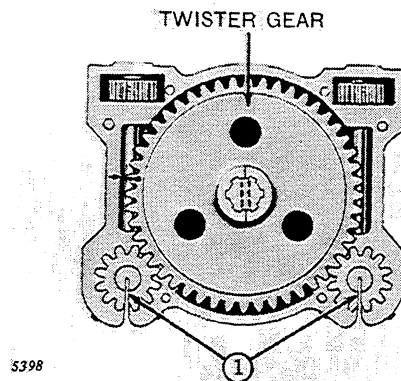
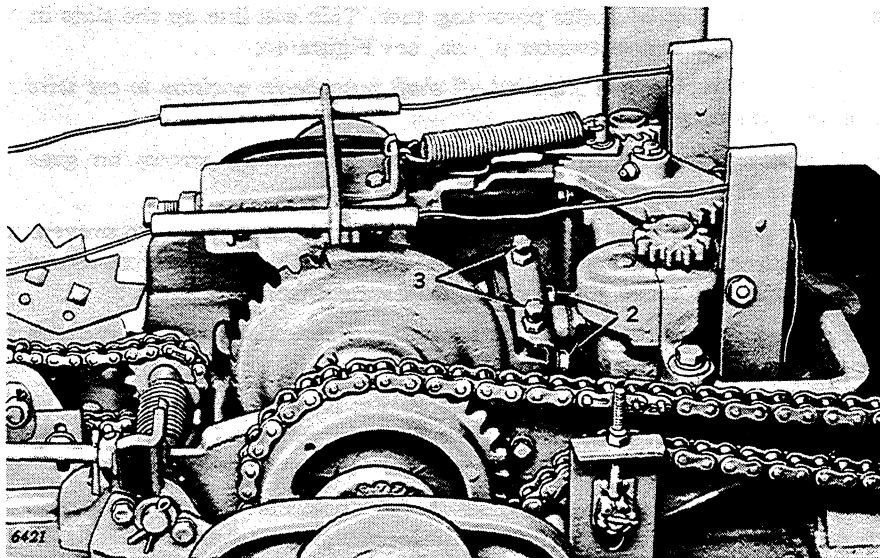
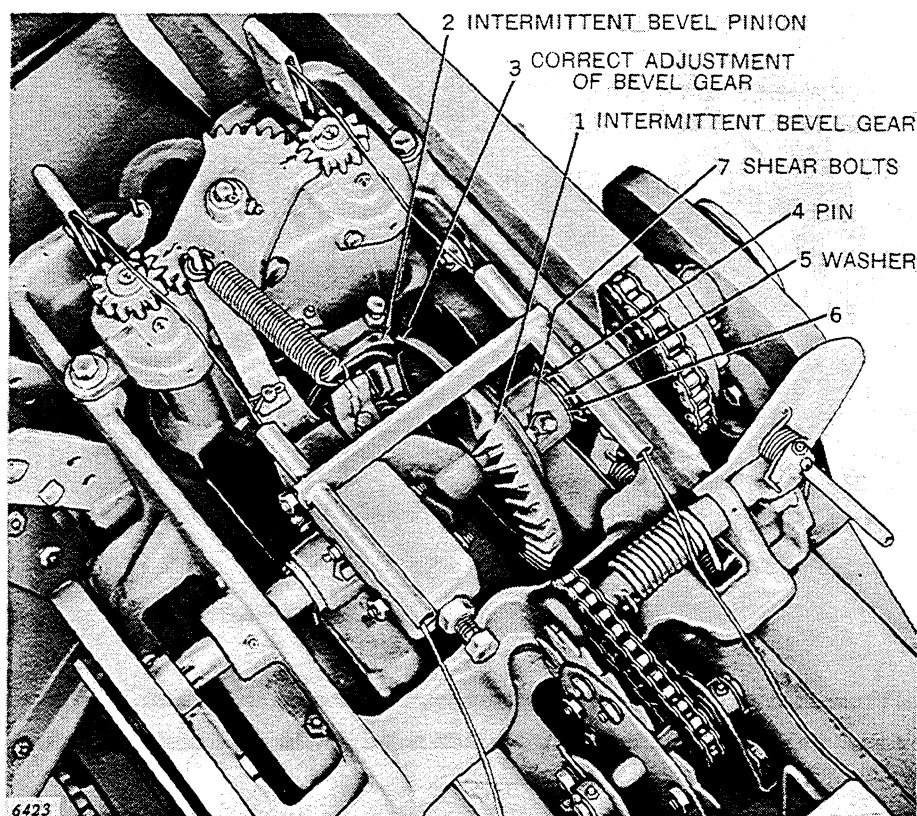

Figure 42
Figure 43
Figure 48
1. The slot in twister pinions must be in a vertical position at the start of the tying cycle as shown at (1), Figure 42. If slots are not in a vertical position, loosen the cap screws (2), Figure 43, in the side of twister gear adjusting plate and turn down one or the other cap screw (3), on top of twister gear adjusting plate. This adjustment rotates the twister gear slightly which turns the twister pinions to right or left. When twister pinion slots are vertical, tighten the lock nut on both cap screws on top of adjusting plate and tighten cap screws in side of adjusting plate.
Close adjustment must be maintained between the intermittent bevel gear (1), Figure 48, and the intermittent bevel pinion (2). This is necessary in order to have the twister pinion slots, Figure 42, stop in a vertical position so the wire may enter.
The correct adjustment is shown at (3), Figure 48. The flat surfaces of the gear and pinion are in contact. If they are not in contact, remove pin (4) in needle lift shaft, move one or more of the washers (5) over against bevel gear hub at (6) and replace pin (4).